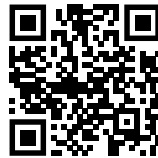

Fig. 155
- ▶ Open Liebherr SmartMonitoring Dashboard. (see Fig. 155)